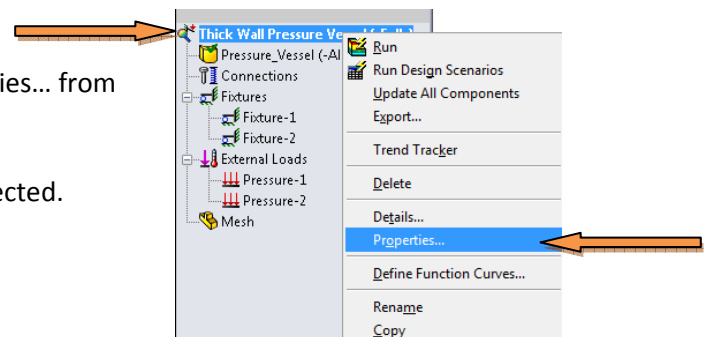

Figure 6
1. Right-click on the study and choose **Properties...** from the menu as shown in Fig. 6.